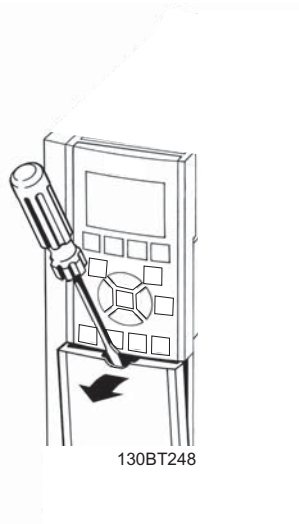

Figure 2.18 Control Wiring Access for A2, A3, B3, B4, C3 and C4 Enclosures
- Remove access cover plate with a screwdriver. See *Figure 2.18*.